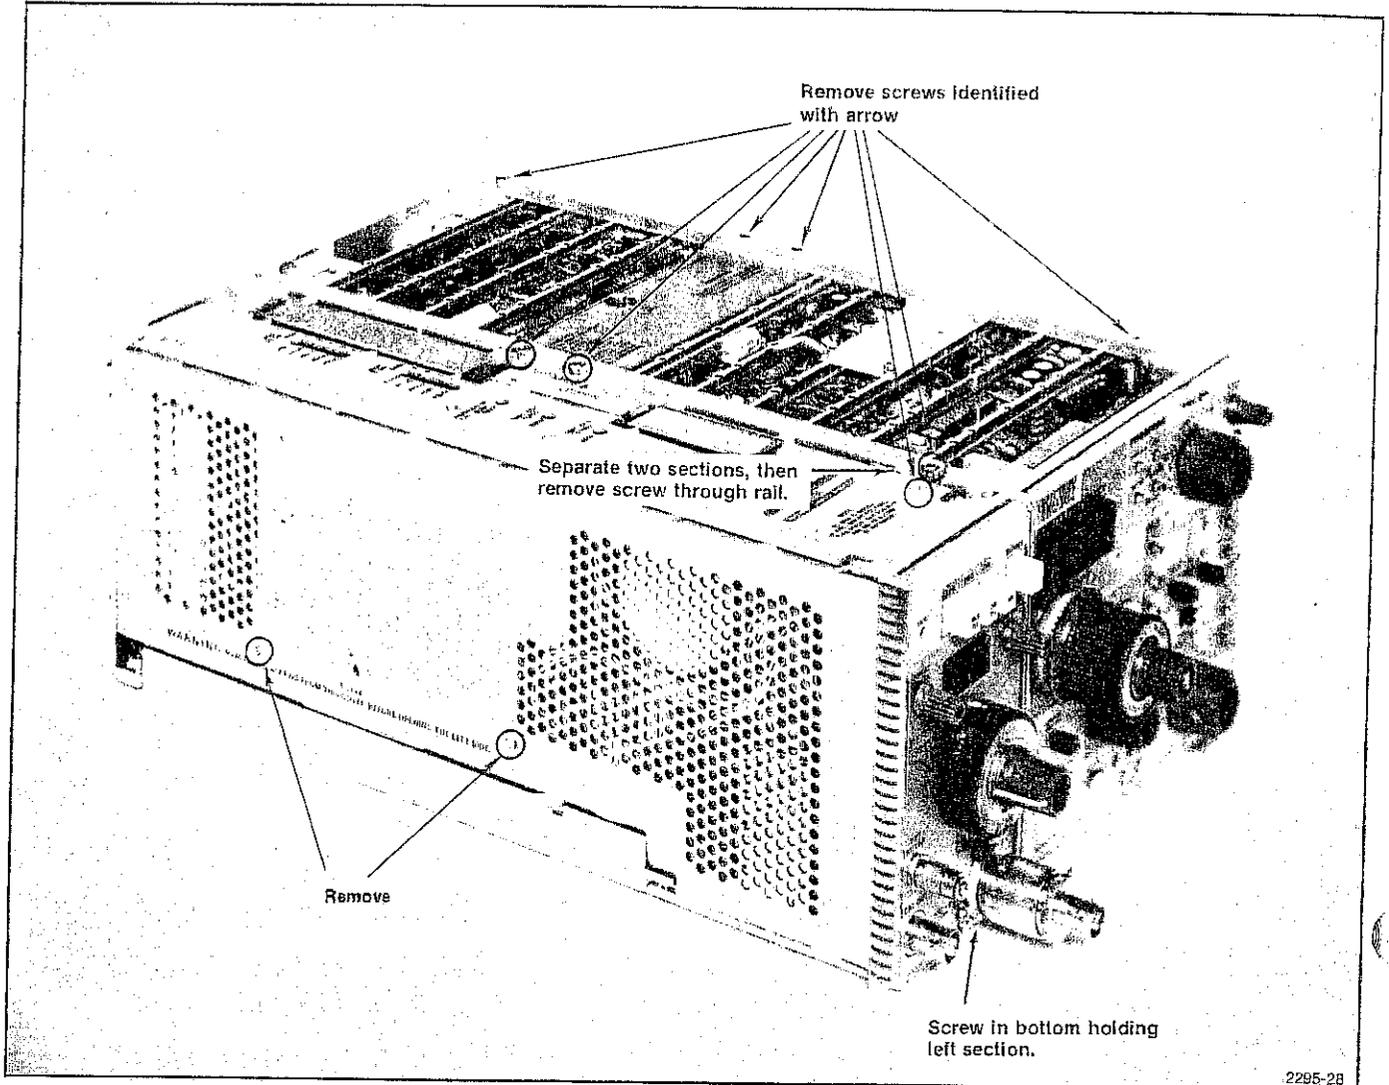

Fig. 4-20. Location of Side Panel and Retaining Rail Screws That Must be Removed to Gain Access to Calibration Adjustments.
Phillips-head screws. Two of these are located near the bottom edge of the side panel and two extend through the rear of the instrument into the side panel (see Fig. 4-20).
b. Remove the two screws that extend through the Left section into tabs on the Right section. These screws are located, top and bottom, near the front of the Left section and they are identified on the instrument by notes that describe their use (see Figs. 4-20 and 4-21).
d. To separate a Module Assembly from the Right section, begin by removing the two retaining rails that are located along the top outside edges of the assemblies. Each rail is secured with four screws. Access to one of these screws requires that the Left section be moved apart from the Right section (see Fig. 4-20).